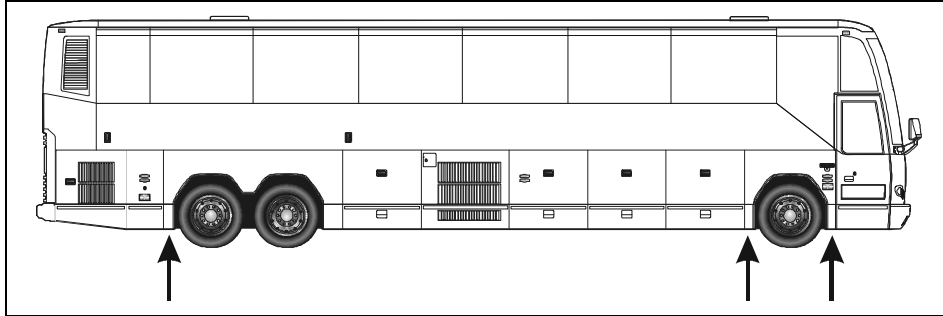

FIGURE 1: JACKING POINTS ON FRAME
1. Raise vehicle by the jacking points on frame (refer to figure 1).